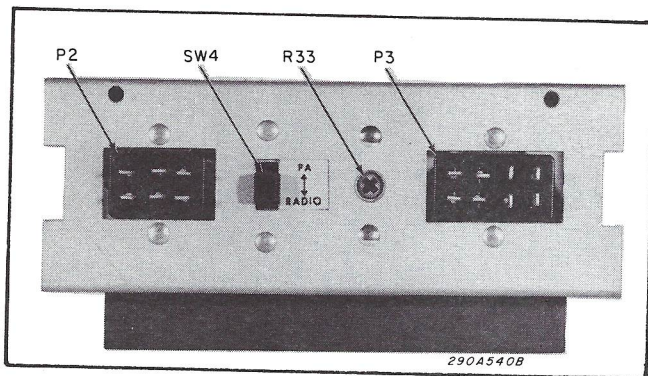

Figure 3-4. Rear View of Siren Module.
1. Set the PA-RADIO switch, located on the rear panel of the Control Module (see figure 3-4), to PA. This sets the PA-1000 to the PA override mode of operation.
2. Obtain Federal radio cable Model FN203. Plug the cable into the 6-pin connector (P2 in figure 3-4) located at the rear of the Siren Module
1. Set the PA-RADIO switch, located on the rear panel of the Control Module (see figure 3-4), to RADIO. This sets the PA-1000 internal circuitry to the common microphone mode of operation.
After the PA-1000 is completely installed in the vehicle, set the SELECTOR switch to PA. Depress the microphone push-to-talk switch, speak in a normal voice, and adjust the GAIN control for a desirable listening level outside the vehicle. Turn-on the vehicle's two-way radio and adjust the volume to a comfortable listening level inside the vehicle. Then, set the siren SELECTOR switch to RADIO. Stand outside the vehicle and note the radio re-broadcast loudness. If too loud or soft; adjust R33, located on the Siren Module rear panel (see figure 3-4), for the desired level. If the volume outside the vehicle was too loud, adjust the control counterclockwise. If too soft, vary the control clockwise until the desired level is obtained.